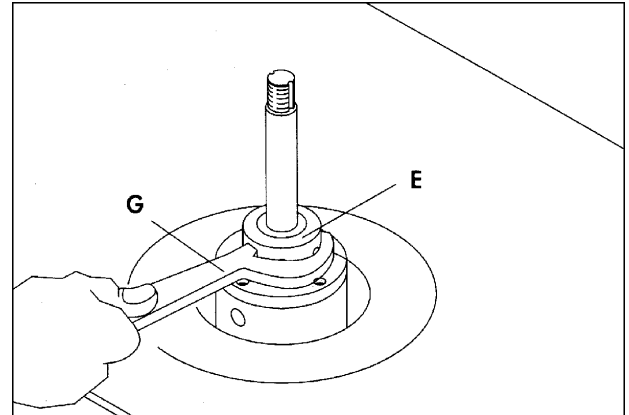

FIGURE 13
7. Use the supplied spanner wrench (G), to tighten the spindle nut (E), shown in Figure 13.